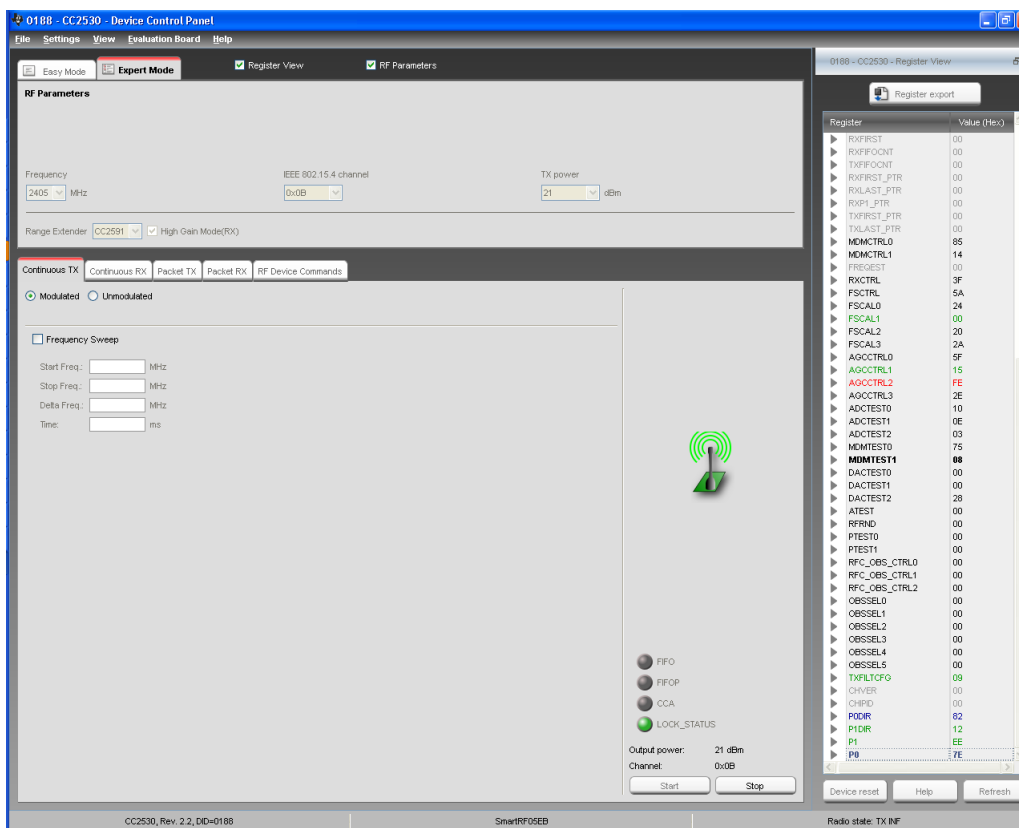

Figure 10-2 Continuous Transmission Tab, ANT2
- 6) Select the correct antenna path, the two antenna paths are controlled through GPIO P1.0 and P1.1, so to change the antenna path from ANT1 to ANT2 the following registers needs to be changed; PODIR=0x82 and PO=0x7D, see Figure 10-2.